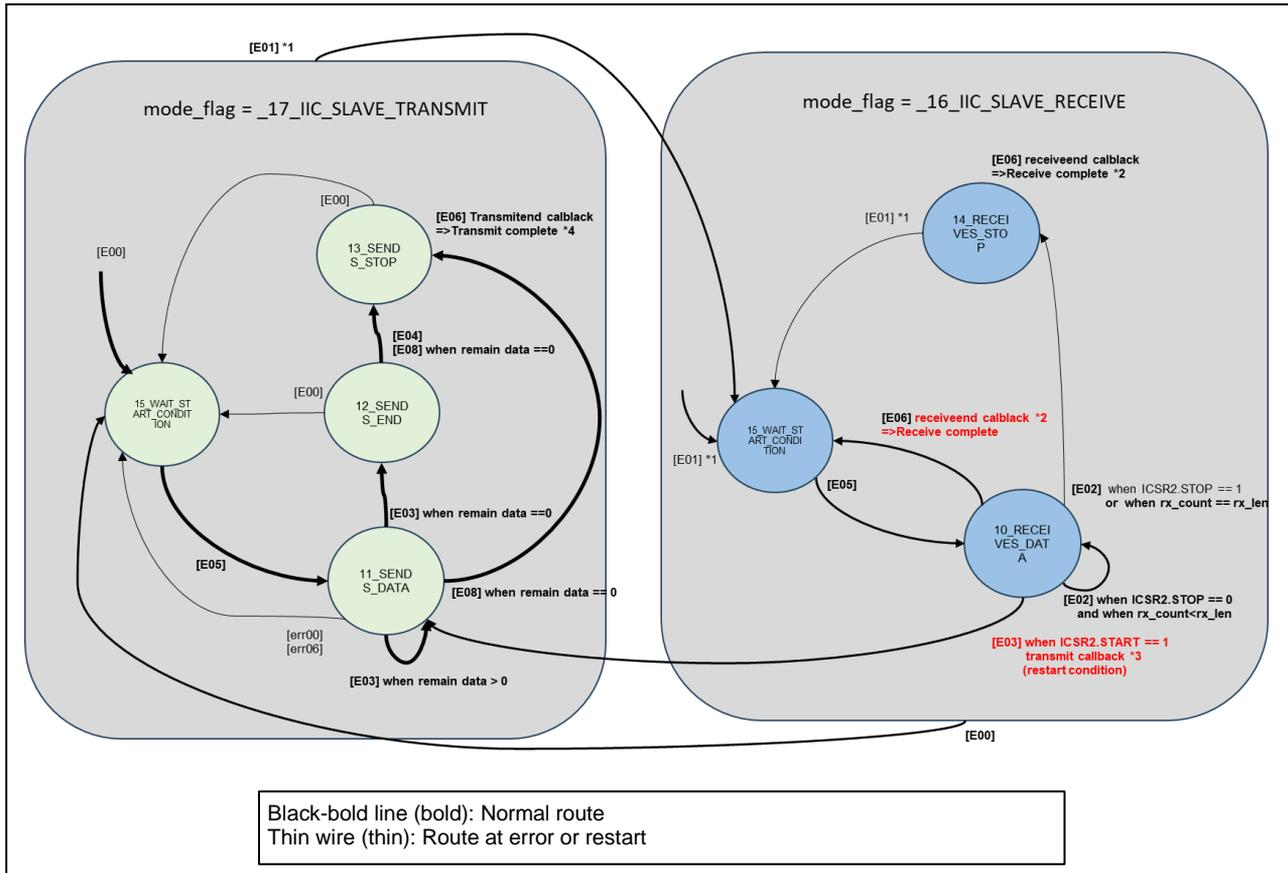

Figure 42 PMBus Slave Driver Layer status transitions
The state transition of the PMBus Slave Driver Layer is divided into the transmit operation part and the receive operation part to PMBus Master, and the specified data is transmitted and received by the specified number of bytes. PMBus Slave Driver Layer status transitions are shown in Figure 42, Figure 43, Table 29 and Table 30.
- Light green indicates state transitions when mode\_flag=17 in Figure 42.
- Light blue indicates state transitions when mode\_flag=16 in Figure 42.